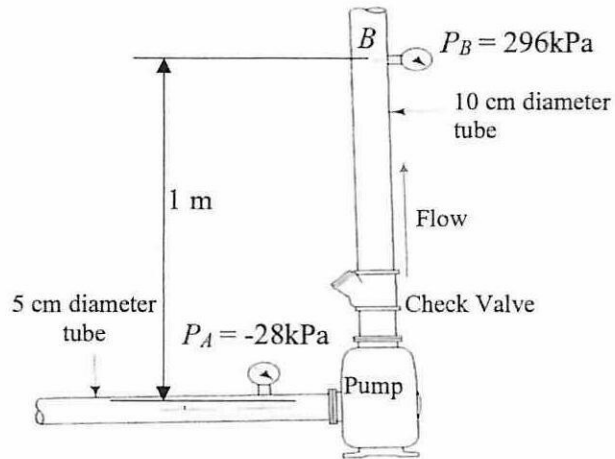

Figure Q4 (b)
- (b) **Figure Q4 (b)** shows the system using a device to pump a fluid from point A to point B. Given the volume flow rate, $Q = 0.014 \text{ m}^3/\text{s}$, the fluid density, $\rho = 0.86 \text{ kg/m}^3$ and the total head loss, $h_L = 1.86 \text{ m}$, determine the energy added by the pump. (5 marks)
- (d) A positive displacement pump moves a fluid by repeatedly enclosing a fixed volume and moving it mechanically through the system. The pumping action is cyclic and can be driven by pistons, screws, gears, rollers, diaphragms, or vanes. Sketch **TWO (2)** examples of positive-displacement pumps. (4 marks)